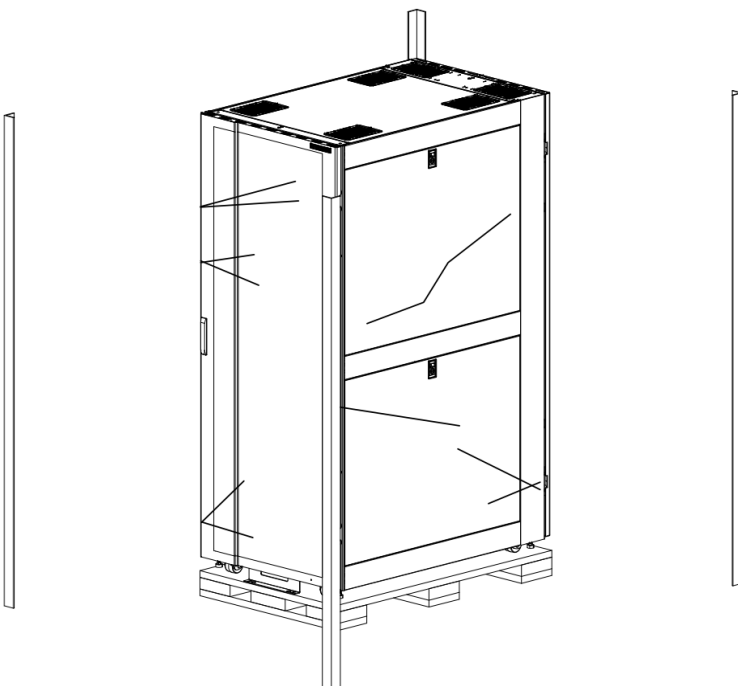

Figure 3.3
- Remove the corner edge protectors, as shown in Figure 3.3